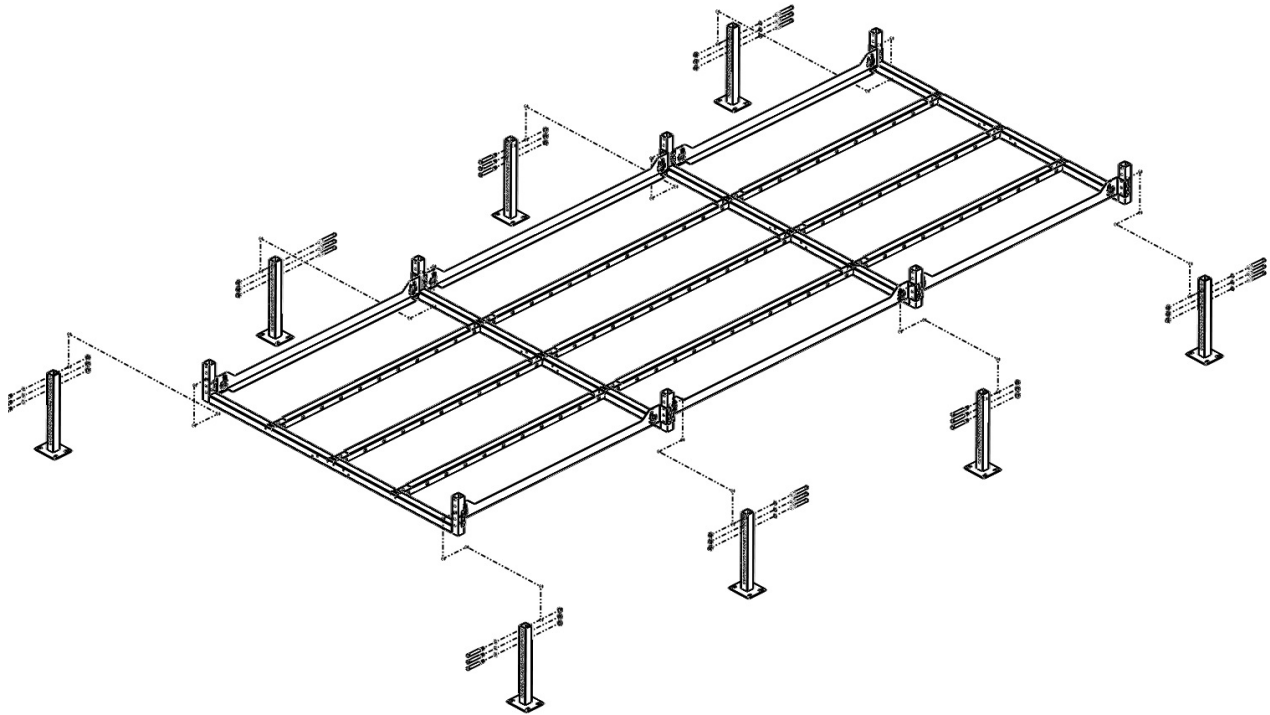
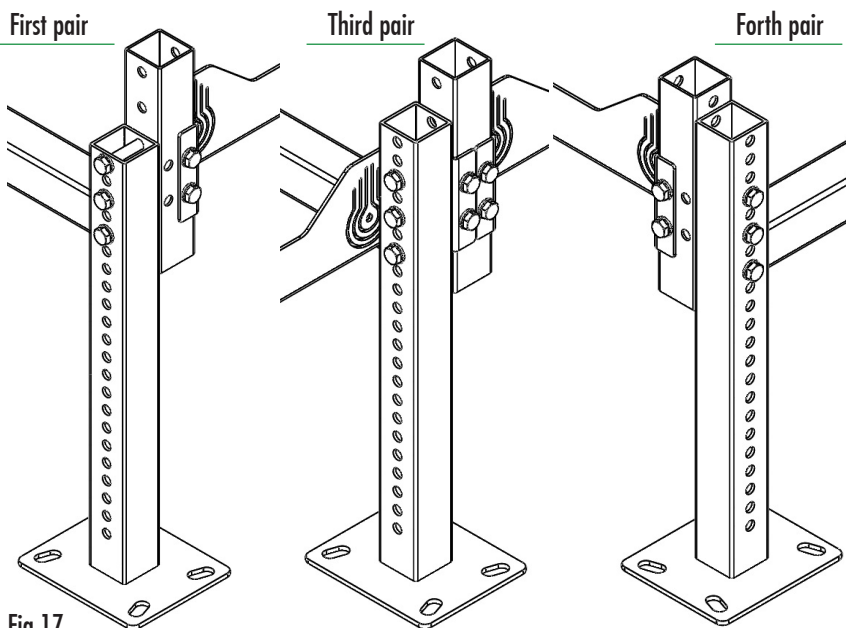

Fig. 16
Fig. 17
- 4.2 Fasten with 3 screws in pass-through holes 1, 3 and 5 the first pair of legs on the external side of of the first WELDED CROSSBAR of the START FRAME (Fig. 16) as shown in Fig. 17
- 4.3 Fasten with 3 screws in pass-through holes 2, 4 and 6 the second pair of legs on the external side of of the second WELDED CROSSBAR of the MODULE FRAME (Fig. 16) as shown in Fig. 17
- 4.4 Fasten with 3 screws in pass-through holes 3, 5 and 7 the third pair of legs on the external side of of the third WELDED CROSSBAR of the MODULAR FRAME (Fig. 16) as shown in Fig. 17
- 4.5 Fasten with 3 screws in pass-through holes 3, 5 and 7 the fourth pair of legs on the external side of of the fourth WELDED CROSSBAR of the END FRAME (Fig. 16) as shown in Fig. 17